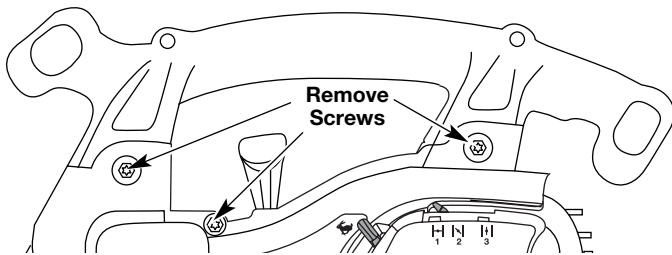

Fig. 33
1. Remove the 2 handle screws with flat blade or T20 torx head screwdriver, while holding the nuts with 3/8" nut driver (Fig. 33).
2. Remove top bolt located near starter rope handle with tools mentioned in step 1 (Fig. 33).